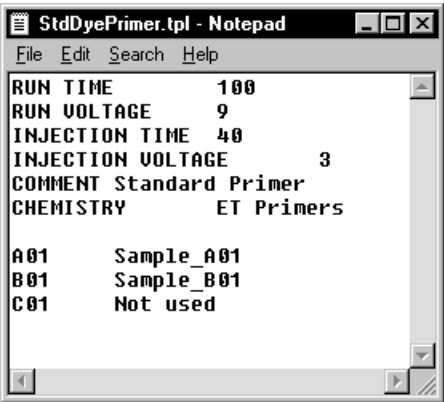

Figure 6-2. An example of a plate setup template file (.tpl) for sequencing.
- 2. Type the field names in the first column (field column), and type the values for each field in the second column (value column). Make sure the field column and value column are separated by a tab. See table 6-1 for a list of the recognized fields for the plate setup parameters. Figure 6-2 shows an example of a plate setup template file (.tpl).